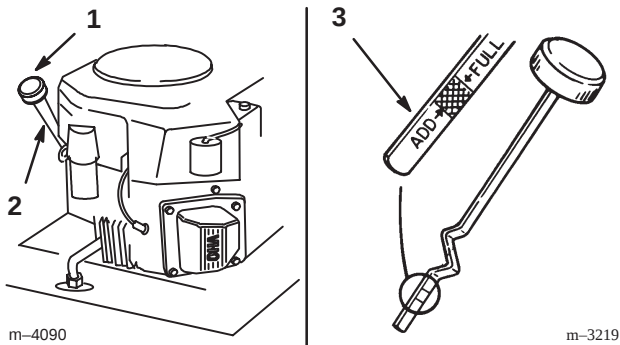

Figure 26
2. Clean around the oil dipstick (Fig. 26) so dirt cannot fall into the filler hole and damage the engine.
3. Unscrew the oil dipstick and wipe the metal end clean (Fig. 26).
4. Slide the oil dipstick fully into the filler tube, do not thread onto tube (Fig. 26). Pull the dipstick out and look at the metal end. If oil level is low, slowly pour only enough oil into the filler tube to raise the level to the “FULL” mark.
5. Slowly pour approximately 80% of the specified amount of oil specified, page 41, into the filler tube (Fig. 26). Now check the oil level; refer to Checking Oil Level, page 42. Slowly add additional oil to bring to “FULL” mark on dipstick.